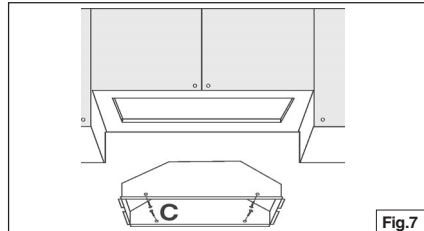

Fig.7
4. Insert the hood in the cabinet (Fig.7) and lock into position using the side spring.
5. Secure the hood with (4) "C" mounting screws.